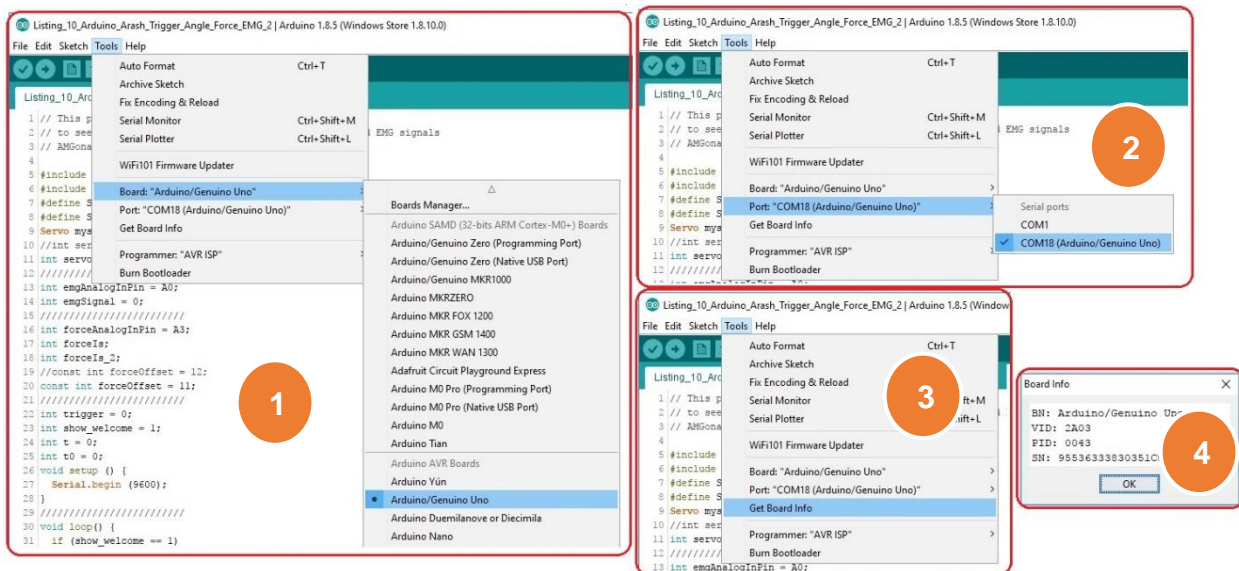

Figure 2: Steps for checking the connection of the Arduino board.
- 2) Start the Arduino software and follow the steps (1-4) for testing the connection between Arduino board to your computer (figure 2).